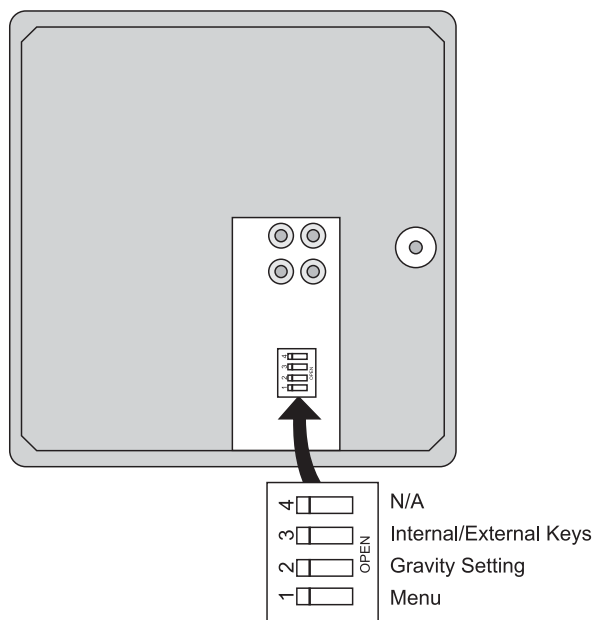

Figure 4
The 7820B powers up ready for weighing operations. Access the Menu mode by setting Switch 1, shown in Figure 4, to the OPEN or Menu mode position.
1. From normal weighing mode, move Switch 1 to the **MENU** Mode or **OPEN** position. (See Figure 4).